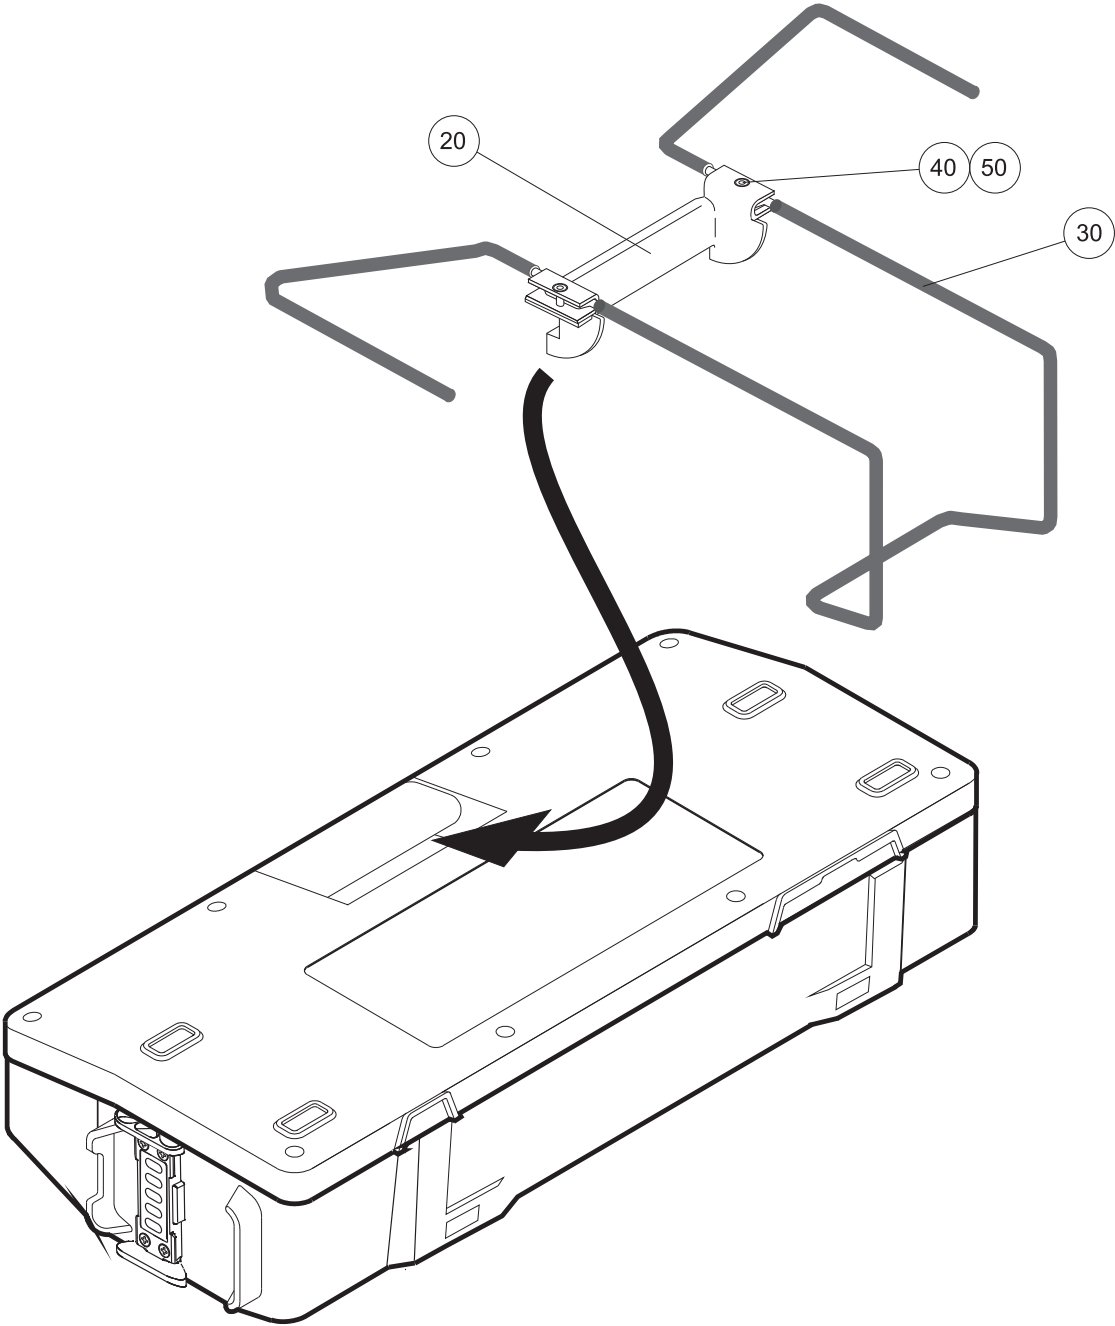

Figure 7 - Removing and installing the Hanging Bracket
- 2.2 Rotate the hanging bracket (Figure 7) and remove it from the handle recess in the back of the pump.
- 3.1 Lay the pump face down and insert the bridge of the hanging bracket (Figure 7) into the handle recess of the pump.